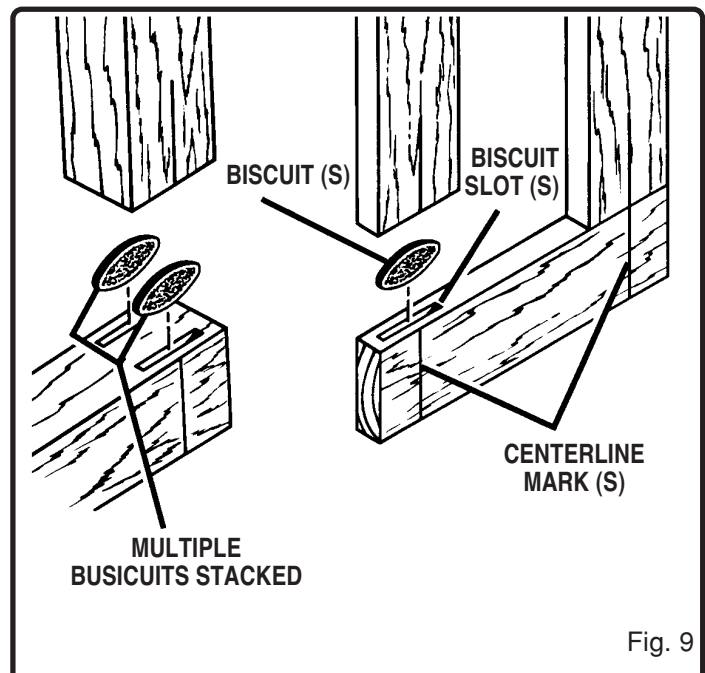

Fig. 9
When joining 1-1/2 in. thick materials, stack two biscuits, one above the other. For example, joining 2 in. x 4 in. dressed lumber. See Figure 9. When joining even thicker materials, use additional biscuits, stacked above each other.
See Figure 9.
- Finally, disassemble the workpieces and place a bead of glue in each slot. Also, spread a bead of glue over the entire surface of the joint. Reinsert the biscuits and assemble the workpieces. See Figure 9.